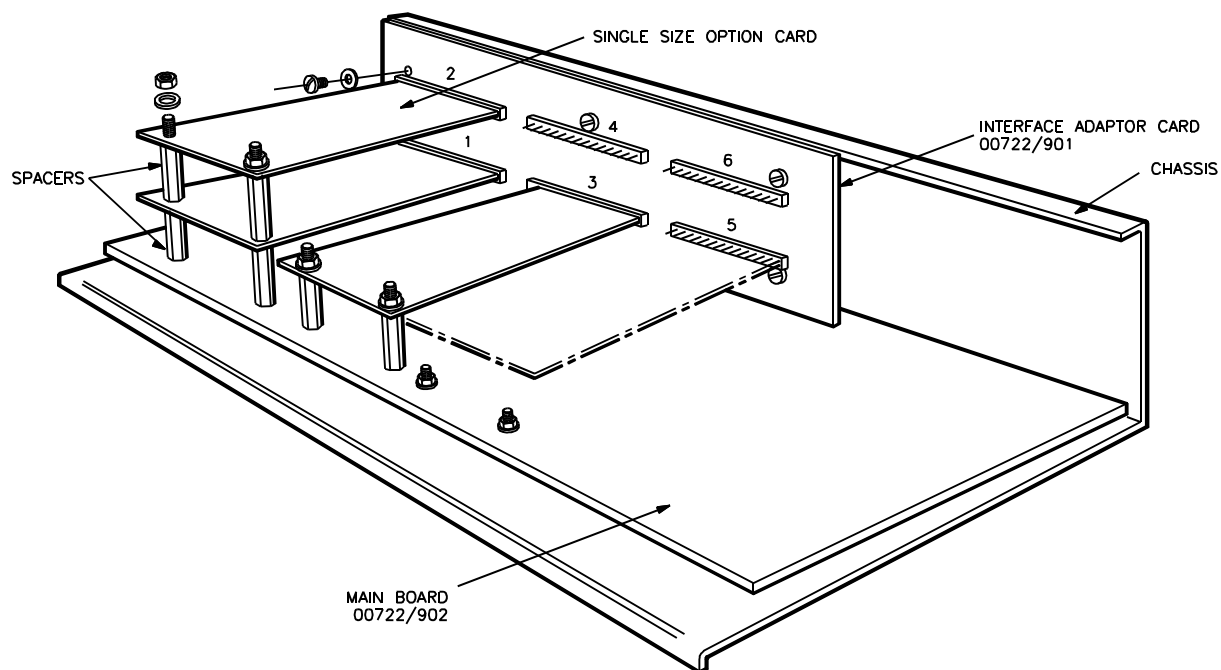

Figure 3.2 Fitting Option Cards
1. Open the control unit case and plug the interface adaptor card (00722901) into the main board, making sure that the card is correctly orientated, see Figure 3.2 (this card will already be fitted if options were specified originally).
The option cards are fitted to the interface adaptor card (00722901) which is located at the top of the control unit case and plugs in to the multi-pin connectors on the main board (see Figure 3.2).